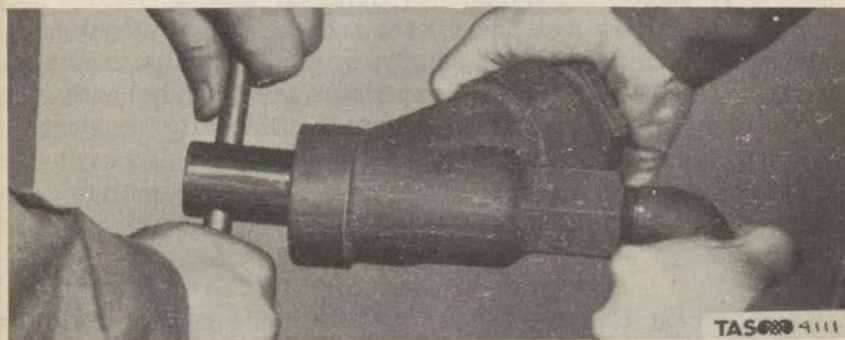

Figure 121. Loosening the Nozzle.
(4) Loosen the nozzle from the inlet body with the injector nozzle wrench. (Fig. 121)